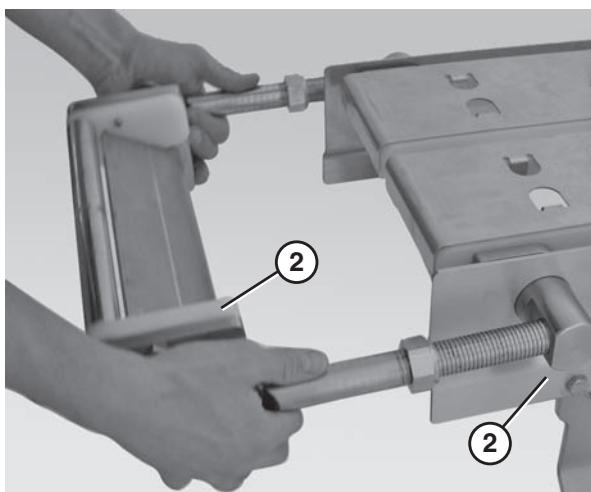

Figure 76
2. Slide the nose bar tail assembly (**Figure 76, item 1**) out of the take up blocks (**Figure 76, item 2**).